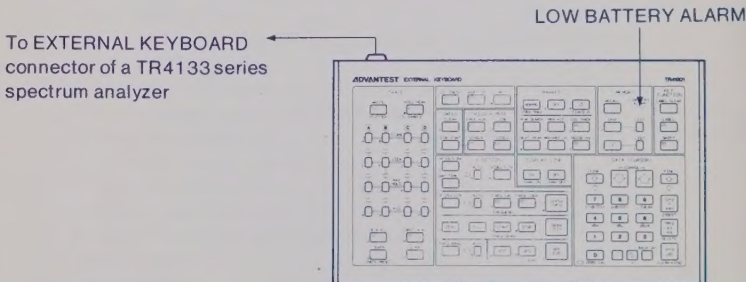

Fig. 1-1 LOW BATTERY ALARM
- The **TR41301** is equipped with a lithium battery for memory back-up purposes. This battery can maintain the memory for at least three years. The battery must be replaced once the LOW BATTERY ALARM in the top right hand corner of the keyboard comes on (see Figure 1-1). Please contact your nearest ADVANTEST's representative for battery replacement details.